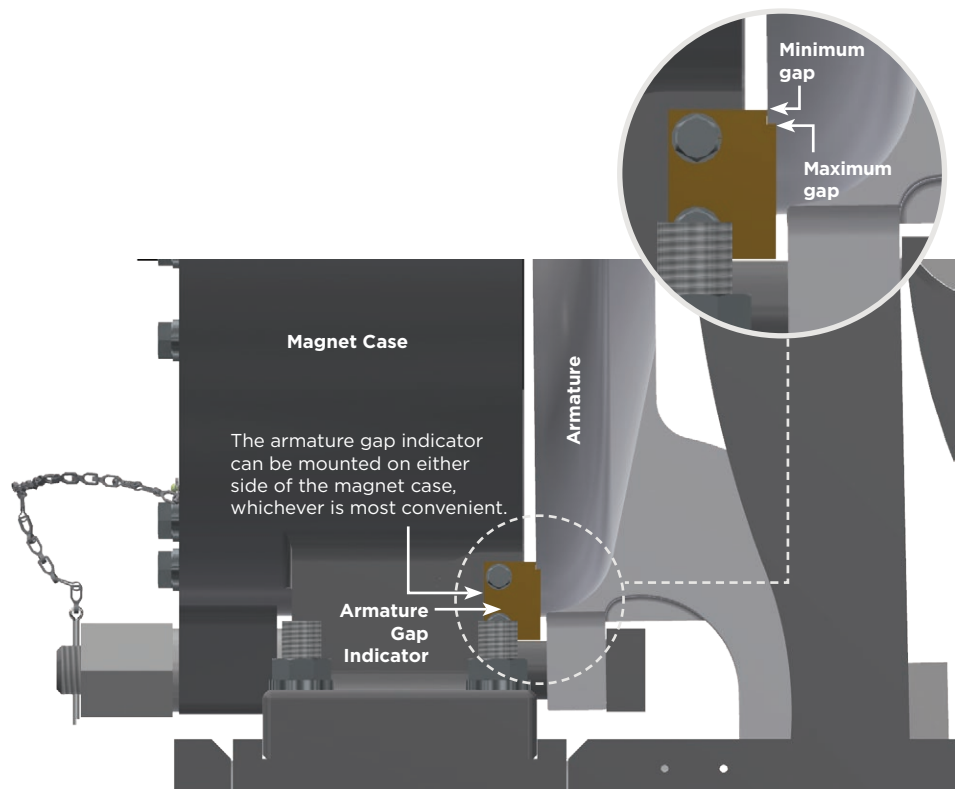

Figure 3: Armature Gap Indicator; armature gap shown set to minimum
The armature gap indicator (L) indicates the minimum and maximum allowable armature gap setting. It is mounted on the frame near the bottom of the magnet case (see Figure 3).
As linings wear, the armature gap increases. With the brake set, the armature gap is correct when the inside of the armature aligns with the inside edge of the slotted step of the armature gap indicator (L). The maximum allowable gap is indicated by the outside edge of the slotted step of the armature gap indicator (Figure 3). The armature gap must be readjusted before the armature gap reaches the maximum allowable limit. See Armature Gap Adjustment Section, page 5, above.